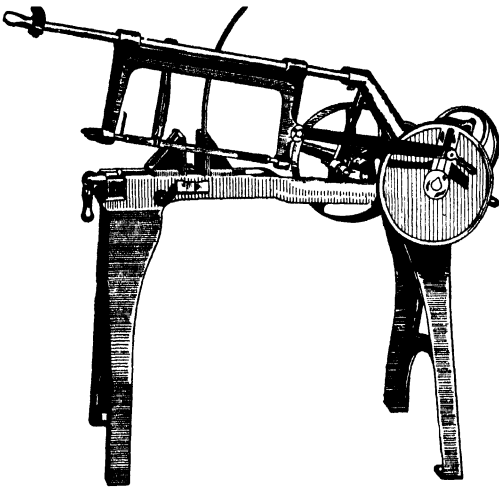

Fig. 43. Typical Power-Operated Hack Saw with Changeable Stroke Feature
*Hack Saw.* The power-driven hack saw is an inexpensive tool, and even the smallest garage finds sufficient work to warrant its cost. It is useful for cutting all kinds of material into lengths, as, for instance, bar stock in square, round, or other form. It works almost without attention and will do more than three times as much work as a man with a hand hack saw can, do it much quicker, more neatly, and better in every way. In Fig. 43 is shown a power hack saw, which may be taken as typical, although there are many different sizes and styles. A feature of this saw, which is not common to all saws, is the adjust-